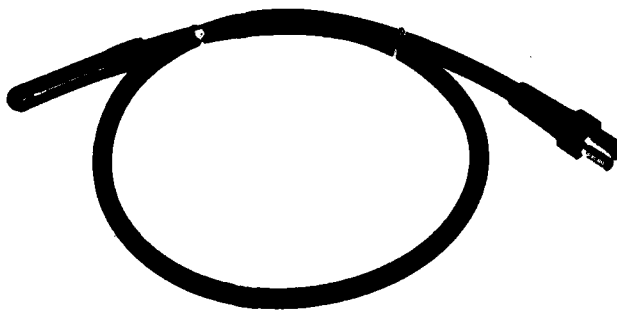

FIGURE 3. TYPICAL CHARGE LINE ASSEMBLY
Complete charge line assemblies of any length (see Figure 3) are available from Spire Corporation. Please write or call for details: Pulser Sales, Spire Corporation, Patriots Park, Bedford, Massachusetts 01730 (617)/275-6000.